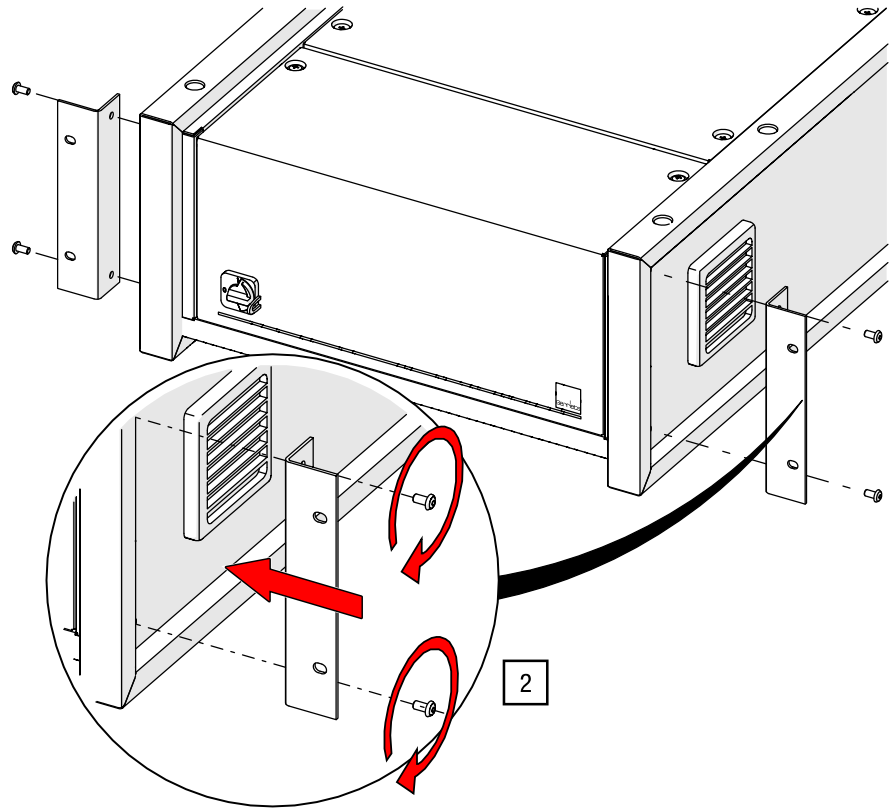

Fig. 34: Securing the rack brackets (model may vary)
2. Screw the rack brackets onto both sides of the G-FRAME control unit using the socket head capscrews (see Fig. 34).